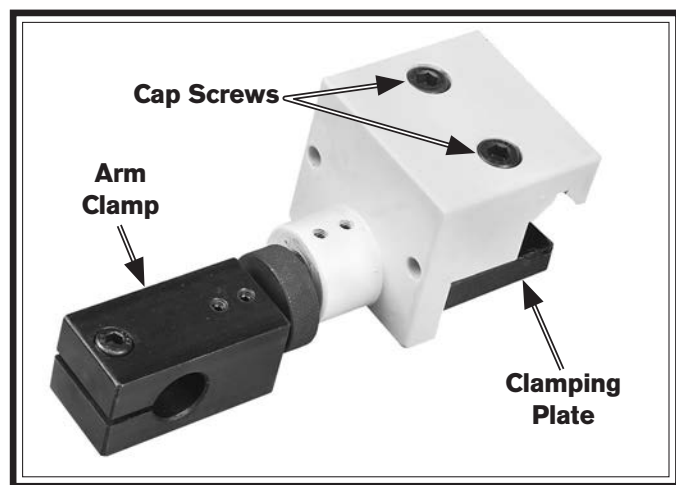

Figure 15. Deadman clamp.
19. Loosen the two cap screws on top of the deadman clamp (see **Figure 15**), then slide the clamp onto the rear bedway from the tailstock end.